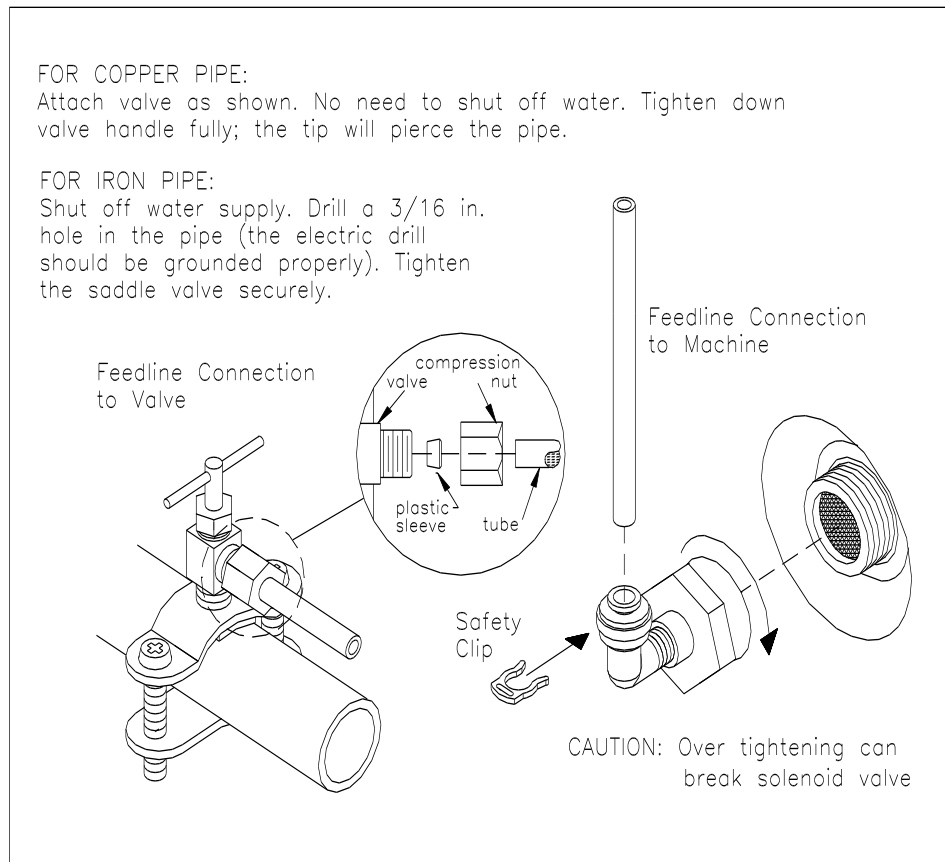

Figure 3
- Take the white direct feed line and push one end into the distiller's water feed quick connect elbow as far as it will go. Place safety lock clip on fitting as shown in **Figure 3**. The water feed line must be cut square so it makes a good seal.
- Connect saddle valve onto direct feed line. (**Figure 3**)